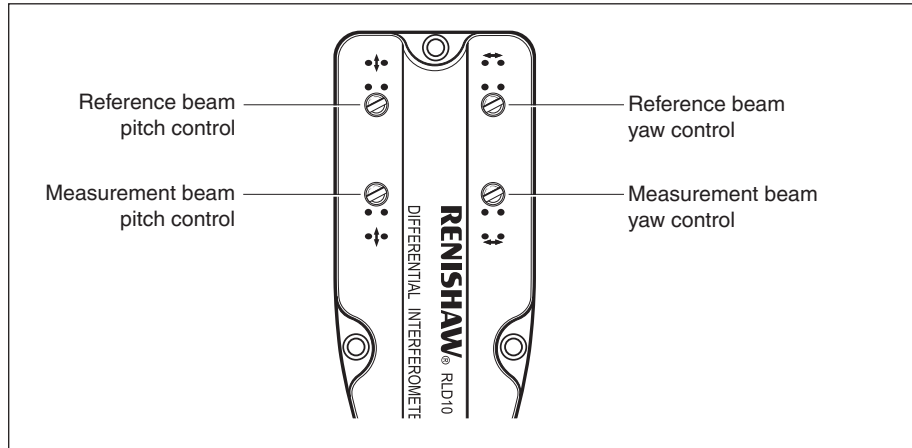

Figure 46 Pitch and yaw controls
- Referring to Figure 46, using a suitable screwdriver, use the reference and measurement beam yaw controls to move the beams so that they are visible on the 45° slope at the left-hand side of the alignment aid.